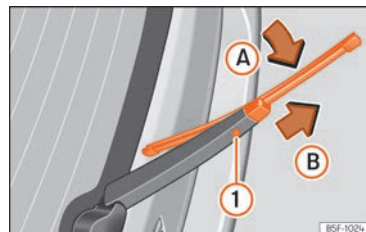

Fig. 162 Changing the rear wiper blade
- Rotate the blade lightly >>> **Fig. 162** (arrow **A**).
- Hold down the release button **①** while gently pulling the blade in the direction of arrow **B**.
- Insert a new blade of the **same length and type** in the rear wiper arm in the opposite direction to the arrow **B** until button **①** hooks into place.